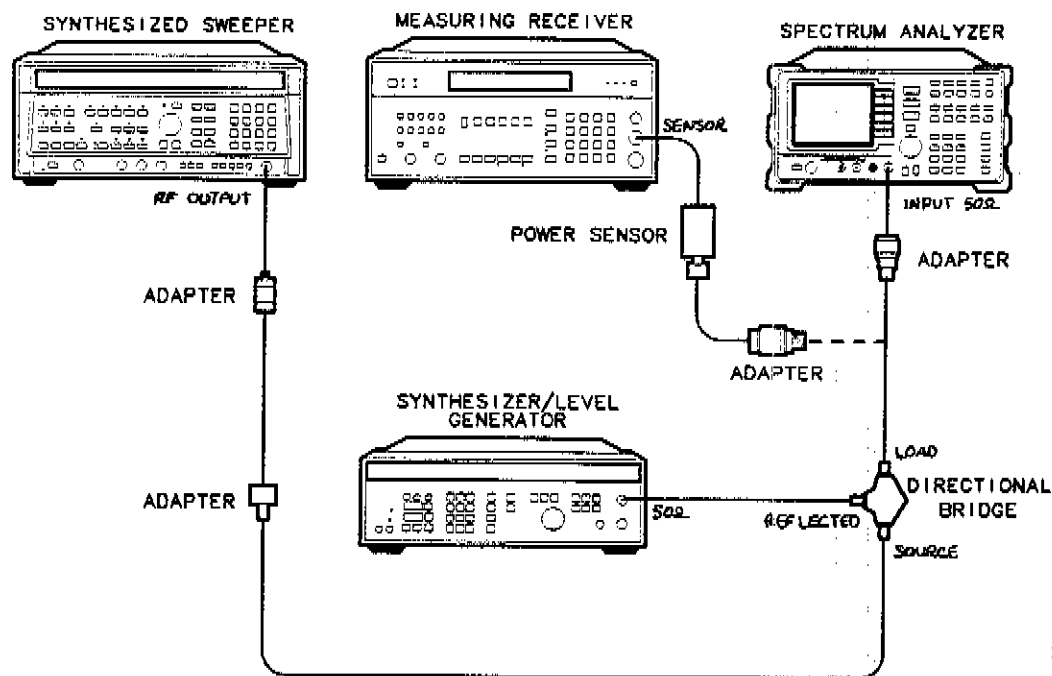

Figure 1-21. Gain Compression Test Setup
2. Connect the equipment as shown in Figure 1-21, with the load (reflected) of the directional coupler connected to the power sensor.